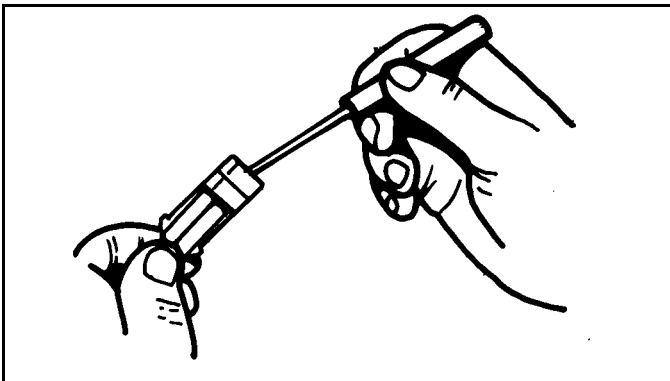

Figure 2-6
3. Use Terminal Removal Tool (#96102499) to remove contact from connector body. (See Figure 2-6)